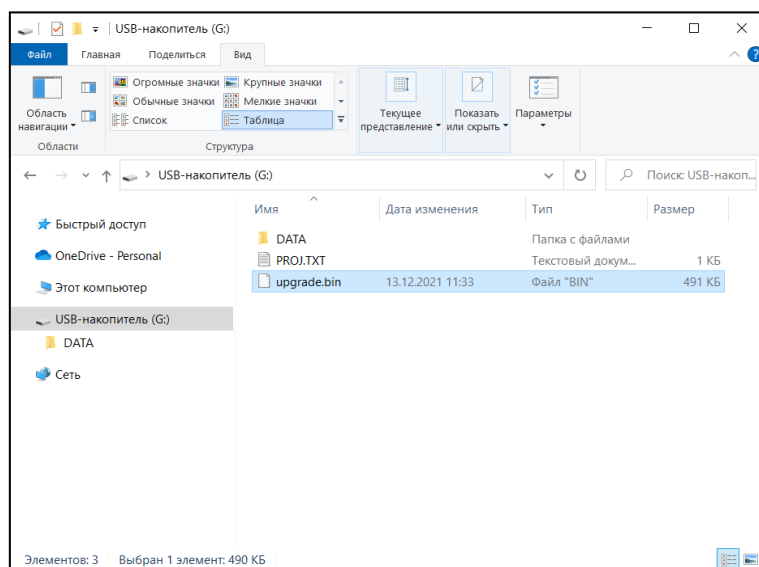

Figure 120 Root folder with firmware file
4.1.3. Copy *upgrade.bin* file to the root folder (Figure 120). **NEVER** upload SmartMag upgrade file to MaxiMag console. This will result in fatal error. If the name of the firmware file is different from *upgrade.bin*, for example, "Maximag.bin", you should change the name of this file to *upgrade.bin* first, before copying it to root file. That can be done for security purposes.